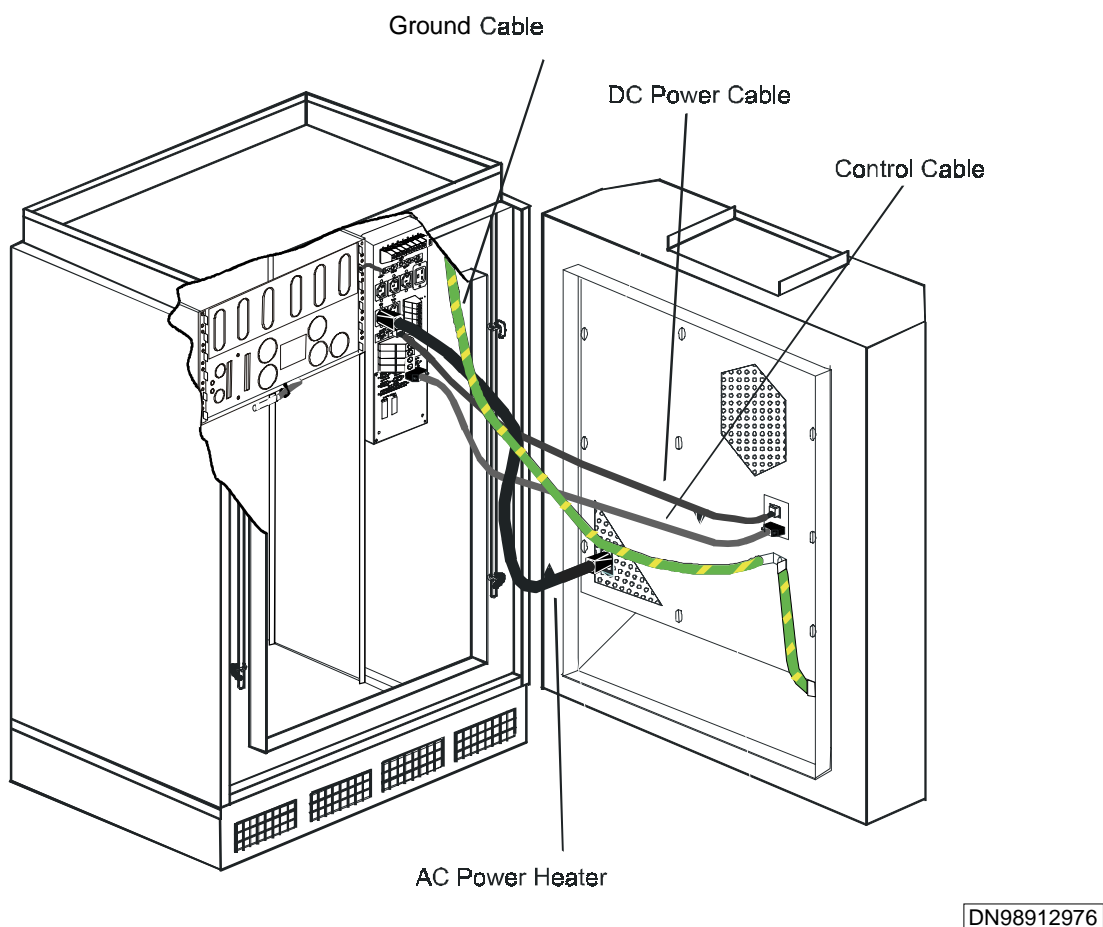

Figure 36 HE cable connections
5. Connect the grounding cable, control cable, AC power cable, and DC power cable as shown in Figure 36. Check that the installed grounding cable is in the position shown in Figure 36.